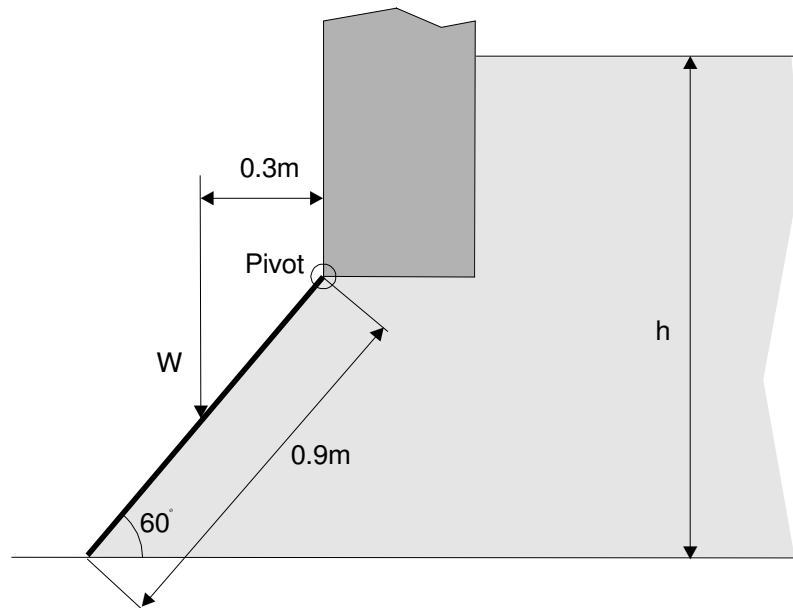

Figure 3
- 5 A rectangular sluice gate is fitted at the base of a reservoir wall with a pivot in the arrangement shown in Figure 3. The gate is designed to regulate the level of water in the reservoir by opening when the water level to the right, h , reaches a certain depth. The gate has a width of 1.2m and its centre of gravity is 0.3m from the wall. Determine the weight, W , of the gate, if a water level of $h = 2.779\text{m}$ will just cause the gate to open.